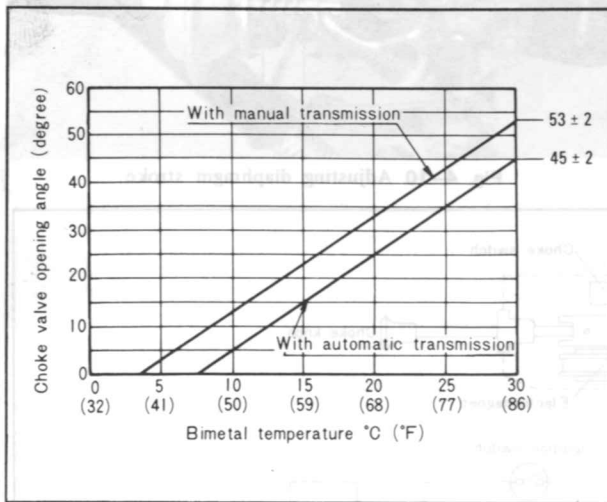

Fig. 4-13 Choke valve opening angle
4. If the setting has been out of order, adjust the choke opening angle following Fig. 4-13.